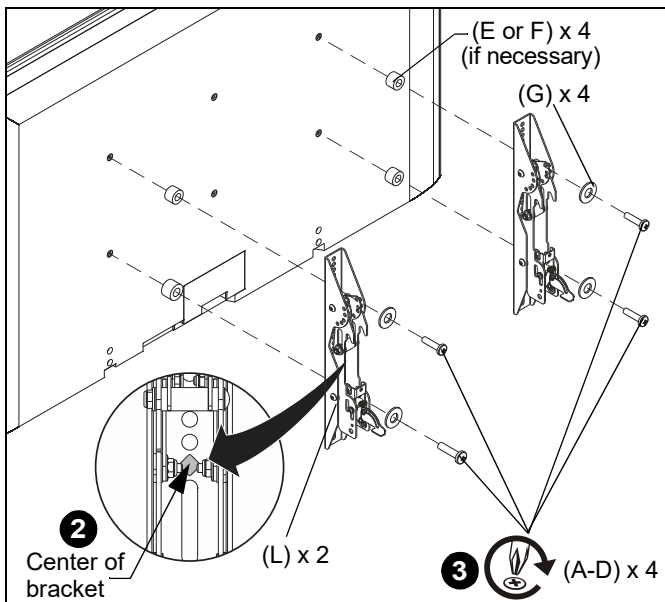

Figure 18
2. Align the center of the interface bracket (L) with center of screen. (See Figure 18)
3. Select correct screws, spacers (if necessary) and universal washers from the hardware bag (A-G) and attach brackets (L) to back of screen. (See Figure 18)